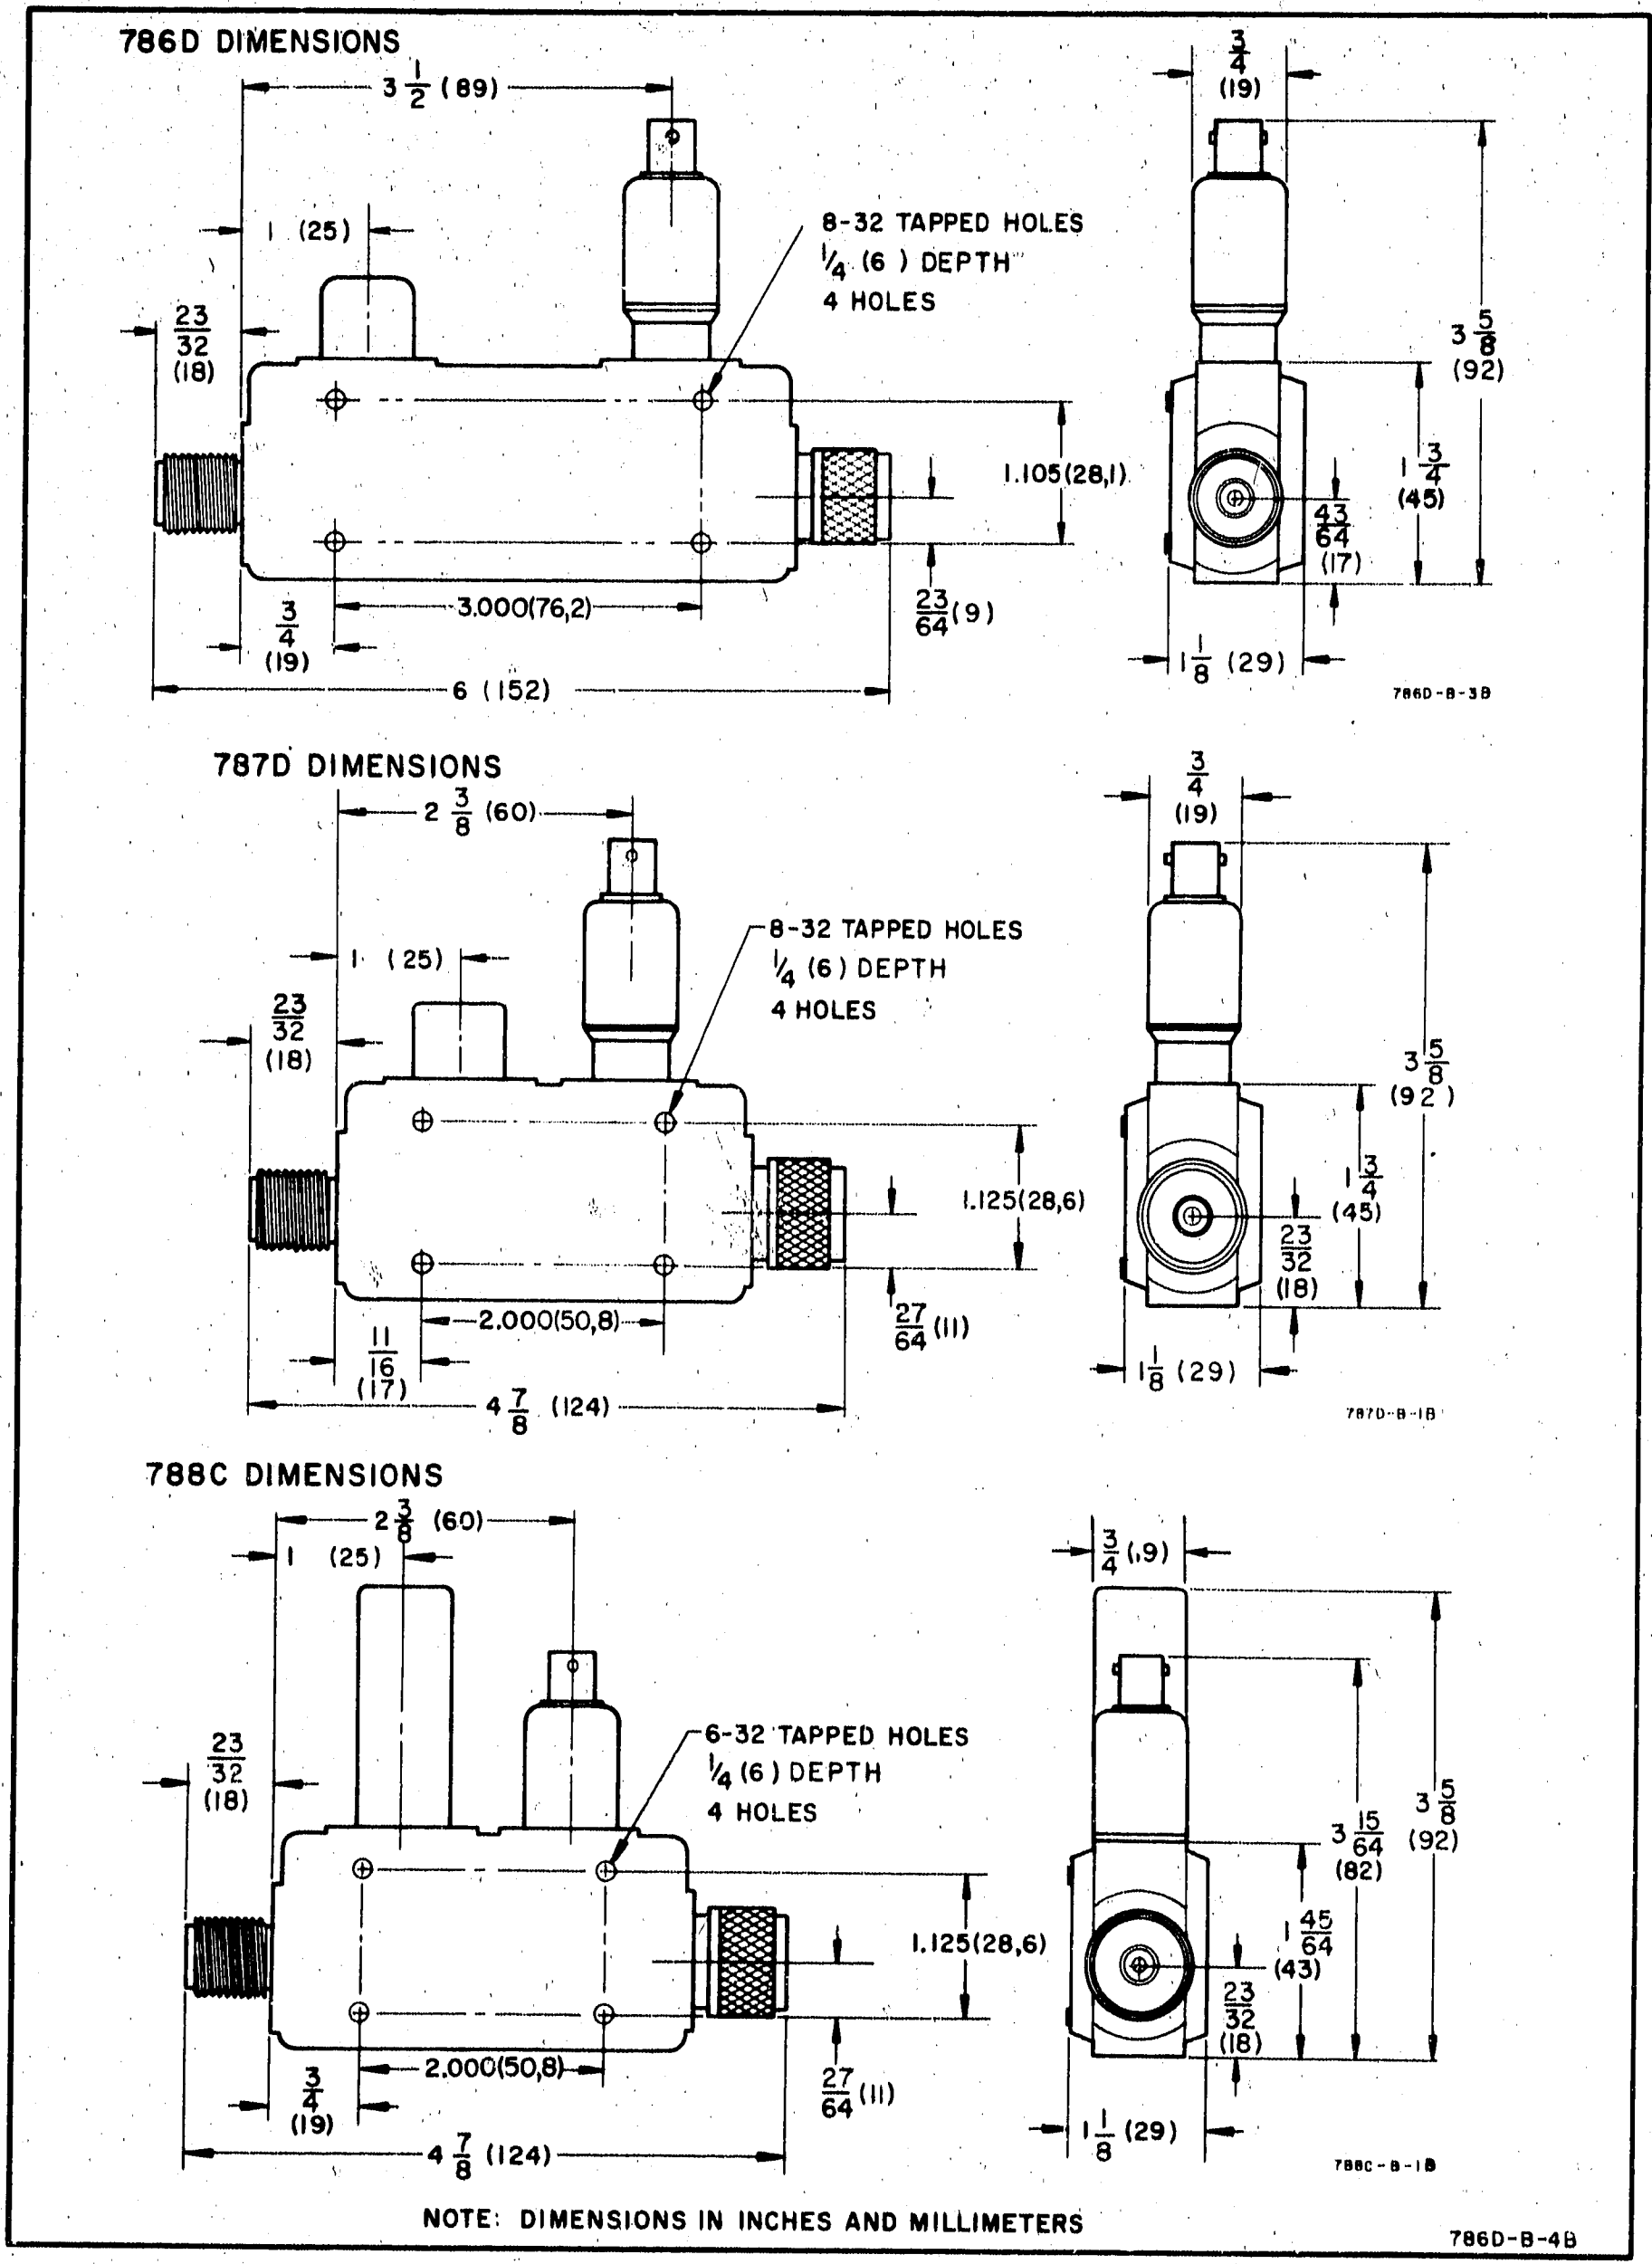

Figure 2. Outside Dimensions
<p>Noise: Less than 200 <math>\mu\text{v}</math> peak-to-peak with CW power applied to produce 100 mv output</p> <p>Detector Output Polarity: Negative</p> <p>Detector Output Connector: BNC female</p> <p>Detector Output Impedance: 15K max shunted by about 10 pf</p> <p>Detector Element: Supplied</p> <p>RF Connectors5: <math>\phi</math> precision type N, one male (input), one female</p> <p>Size: Refer to Figure 2</p>	<p>Net Weight:</p> <p>786D - 16 oz (450 g)</p> <p>787D - 12 oz (340 g)</p> <p>788C - 12 oz (340 g)</p> <p>Options:</p> <p>02. Furnished <math>\phi</math> 11523A load resistor for optimum square-law characteristics at 24°C (75°F), <math>\leq \pm 0.5</math> db variation from square-law for outputs up to 50 mv peak (working into an external load <math>&gt; 75\text{K}</math>). Sensitivity when load is used is typically <math>&gt; 1 \mu\text{v}/\mu\text{w}</math> CW for 786D and 787D, and <math>&gt; 10 \mu\text{v}/\mu\text{w}</math> CW for 788C.</p> <p>03. Positive polarity detector output.</p>
10. The directional detector is useful as the sampling and detection device in closed-loop leveling setups as described in Paragraph 16. It can also be used as a calibrated power monitor by determining the correlation between detected output and main-line RF output levels, or for relative RF envelope observation with an oscilloscope. If the directional detector is to be permanently mounted for any application, refer to Figure 2, which illustrates the location of the four mounting holes and the general side dimensions. Before installing in any setup, the following should be considered: